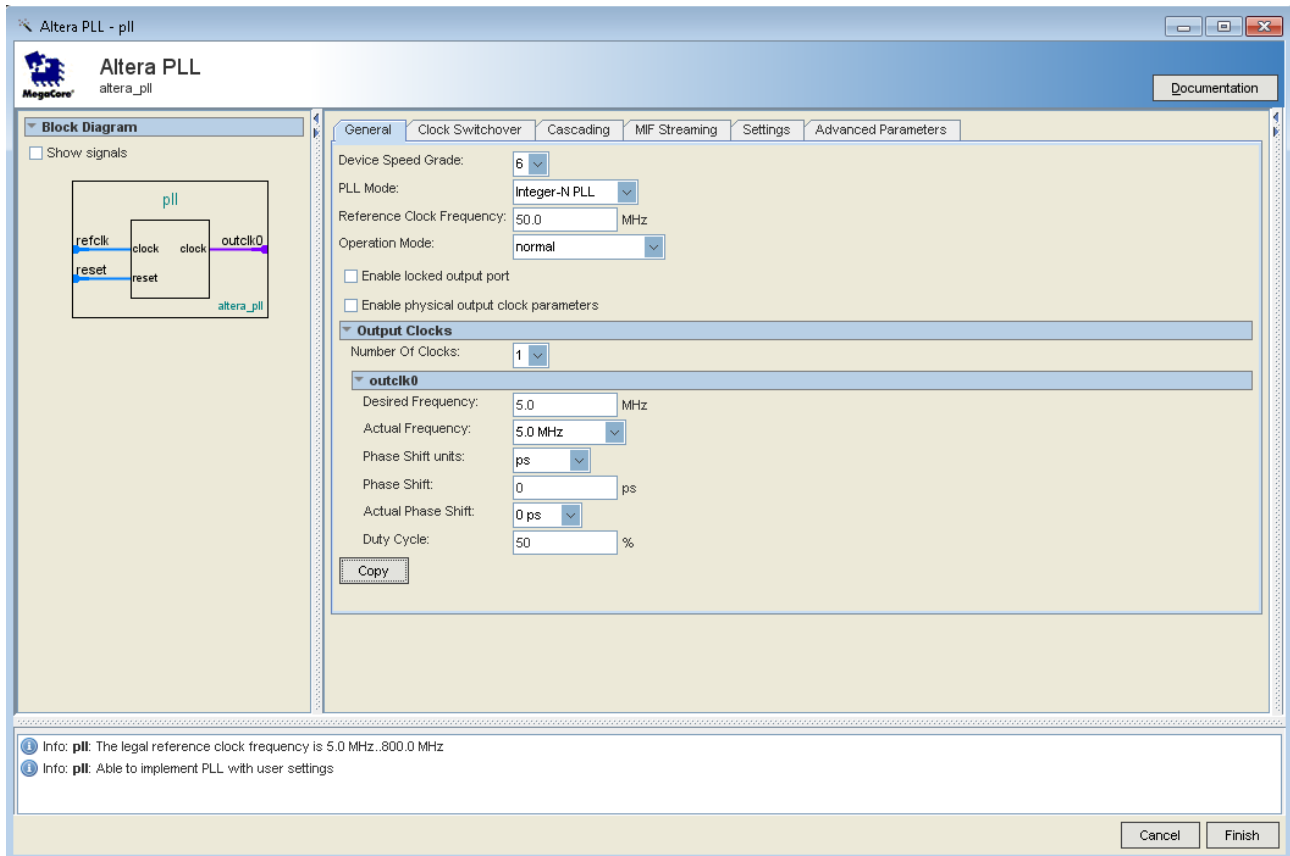

Figure 3-12 MegaWizard Plug-In Manager Selections
7. Then, make the following selection (see **Figure 3-12**).